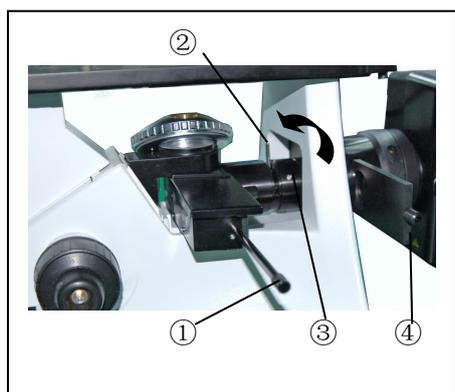

Fig 9
**3.1.8 Centering the Field Iris Diaphragm (Fig 9, 10)**